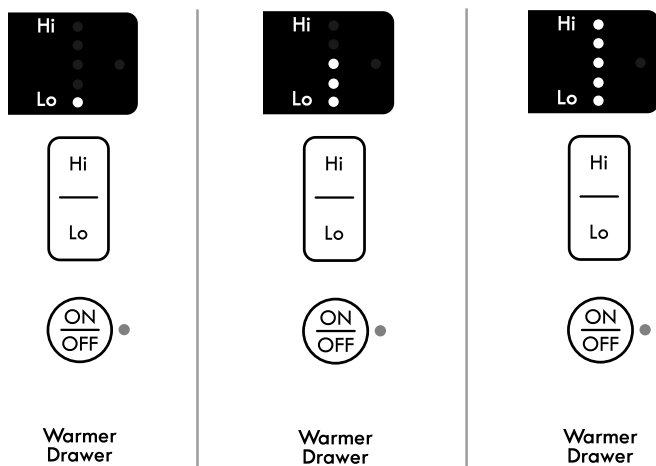

Fig. 2
3. To set heat level press **Hi** or **Lo** keypad and if needed toggle using these keypads to adjust to the desired power level setting. Release keypad when the desired heat level is displayed by the indicator lights. Fig. 2 shows examples for low, medium and high settings.